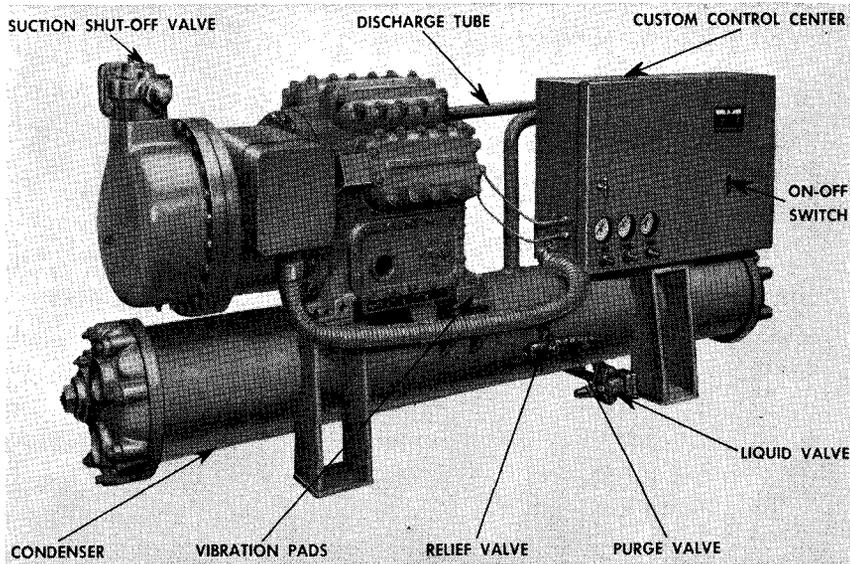

Fig. 3—VH Condensing Unit
b. Condensing Unit (Fig 3)—Series CDS-300 and Series CDS-400 condensers are employed on the V-Line condensing units. The basic dif-